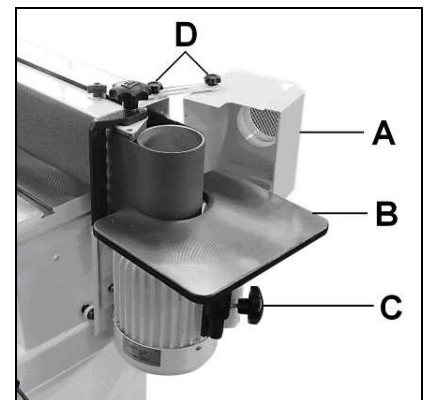

Fig 9
Open the drum guard (A, Fig 9) and tighten the 2 lock knobs (D).